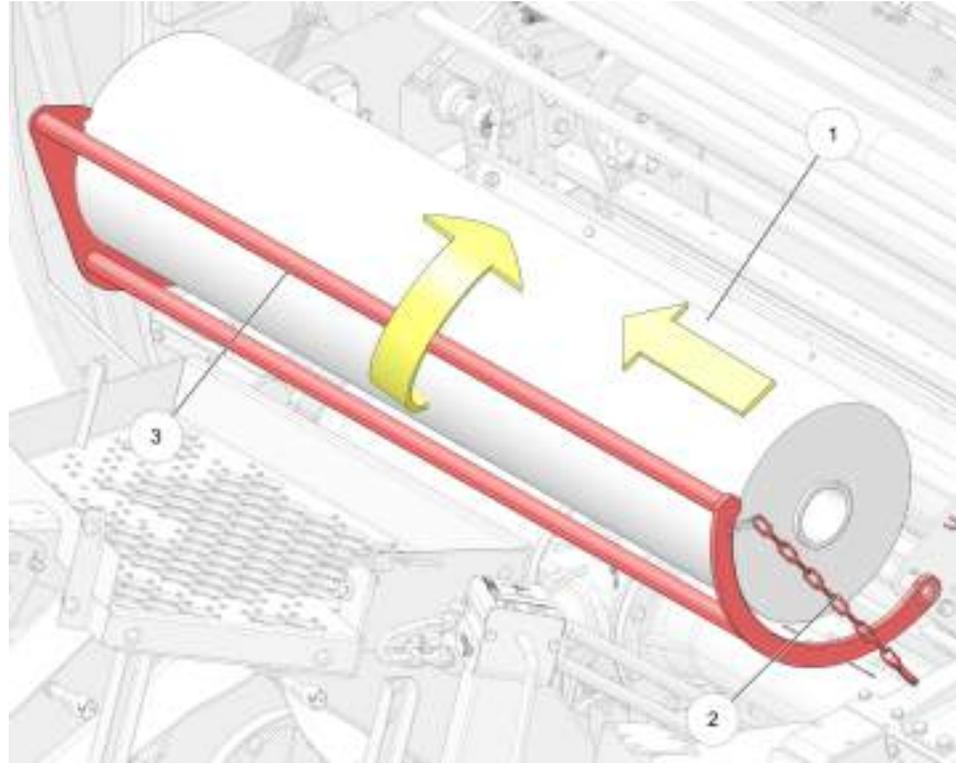

Figure 42. Insert the net roll
1. Push the new net roll (1) (see Figure 42 on page 7-19) into the holder.
2. Connect the safety chain (2).
3. Tilt the holder (3) and net into the net roll holder.